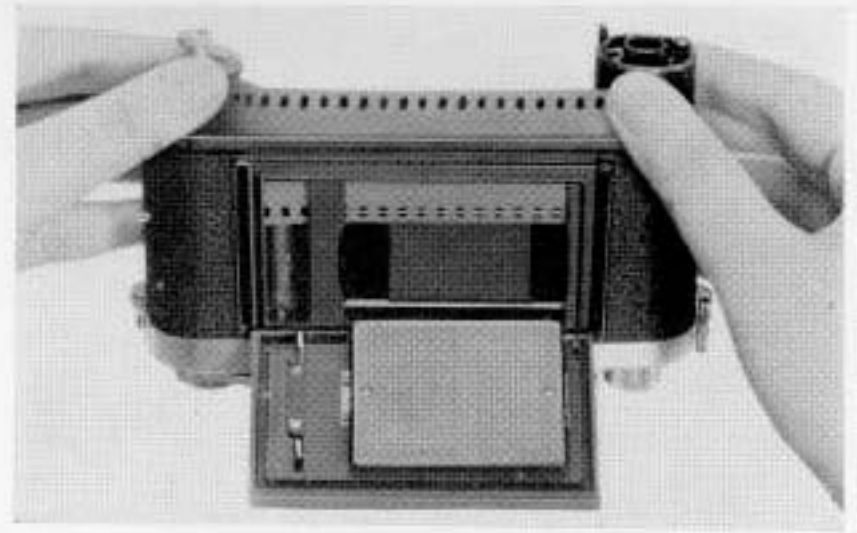
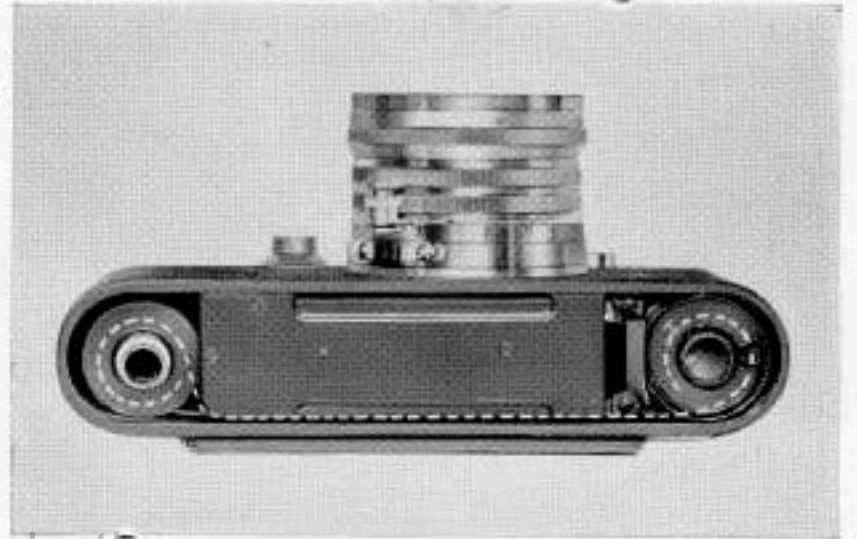

Fig. 4
Fig. 5
- (V) As shown in Fig. 4, hold the magazine with the left hand and the take-up spool with the right hand, draw out an appropriate length of the film, and insert both the magazine and the take-up spool gently into their respective chamber, facing the emulsion surface of the film toward the camera lens. When the film is properly loaded in the camera, the film path will be as shown in Fig. 5.